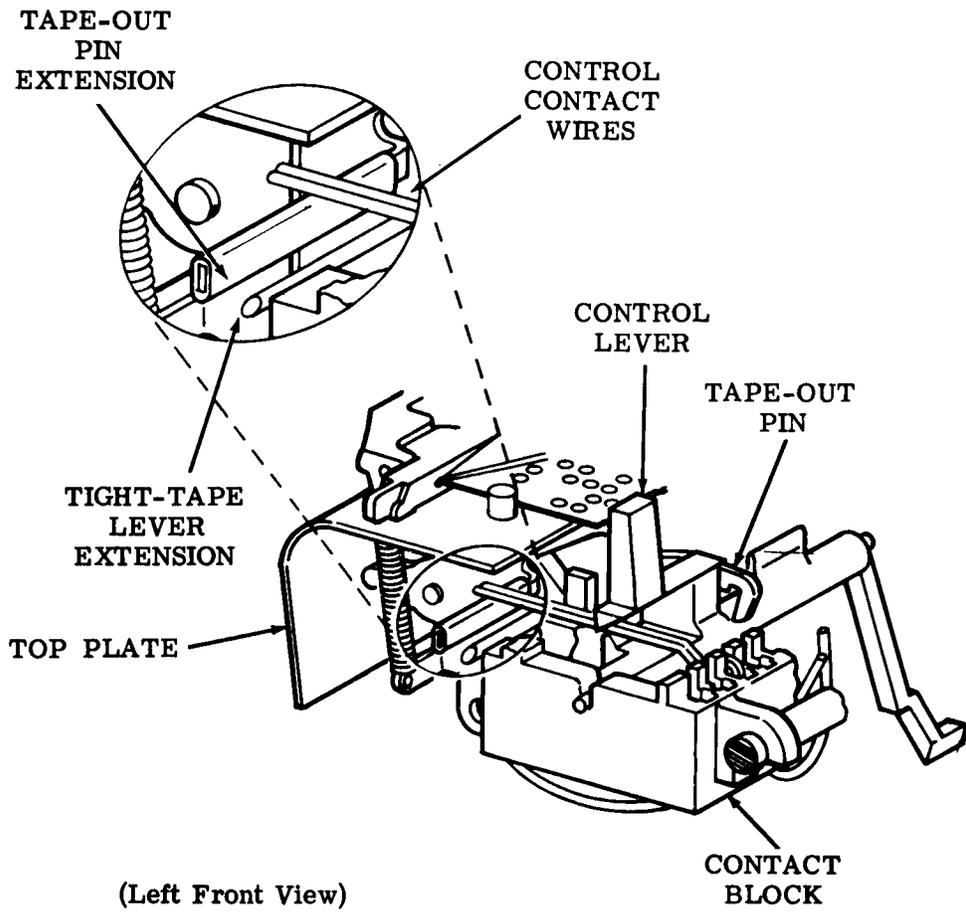

Figure 4 - Control Mechanism
3.07 There are three positions for the control lever: START, STOP, and FREE. When the control lever is moved to the START position (Figure 4), the spring biased control contact wires are positioned on the control contact. Since the control contact wires and the control